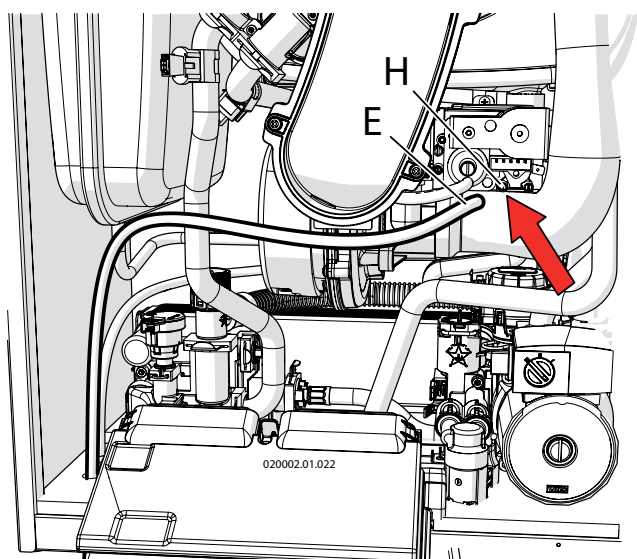

Figure 6.10 - Combustion agent air pressure point
- 7.- loosen the pressure point "H" in figure 6.10;
- 8.- take a silicone pipe with external diameter of 10 mm and internal diameter of 7mm (detail "E" in figure 6.10) and introduce it into pressure point "H";